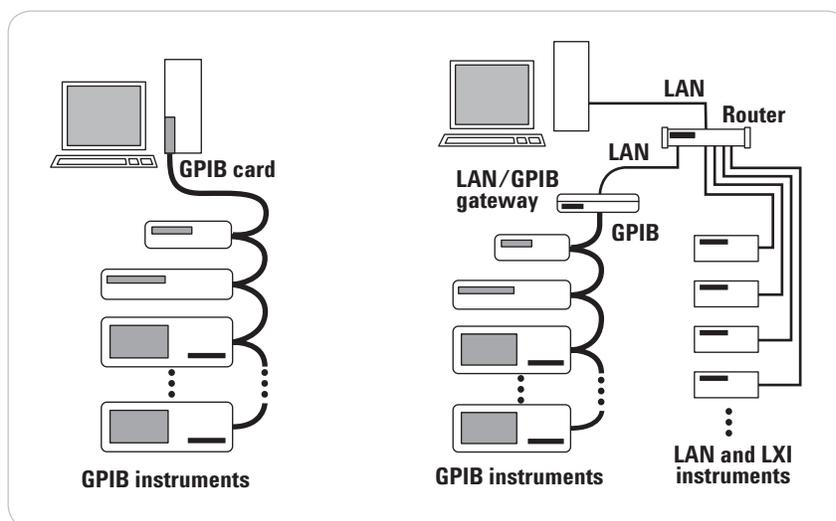

Figure 1. An all-GPIB system (left) can be easily converted to a hybrid structure (right).
4. Move the remaining GPIB instruments to the LAN with a GPIB gateway or converter (Figure 1). Automatic capabilities will discover the converter and then find the attached instruments.